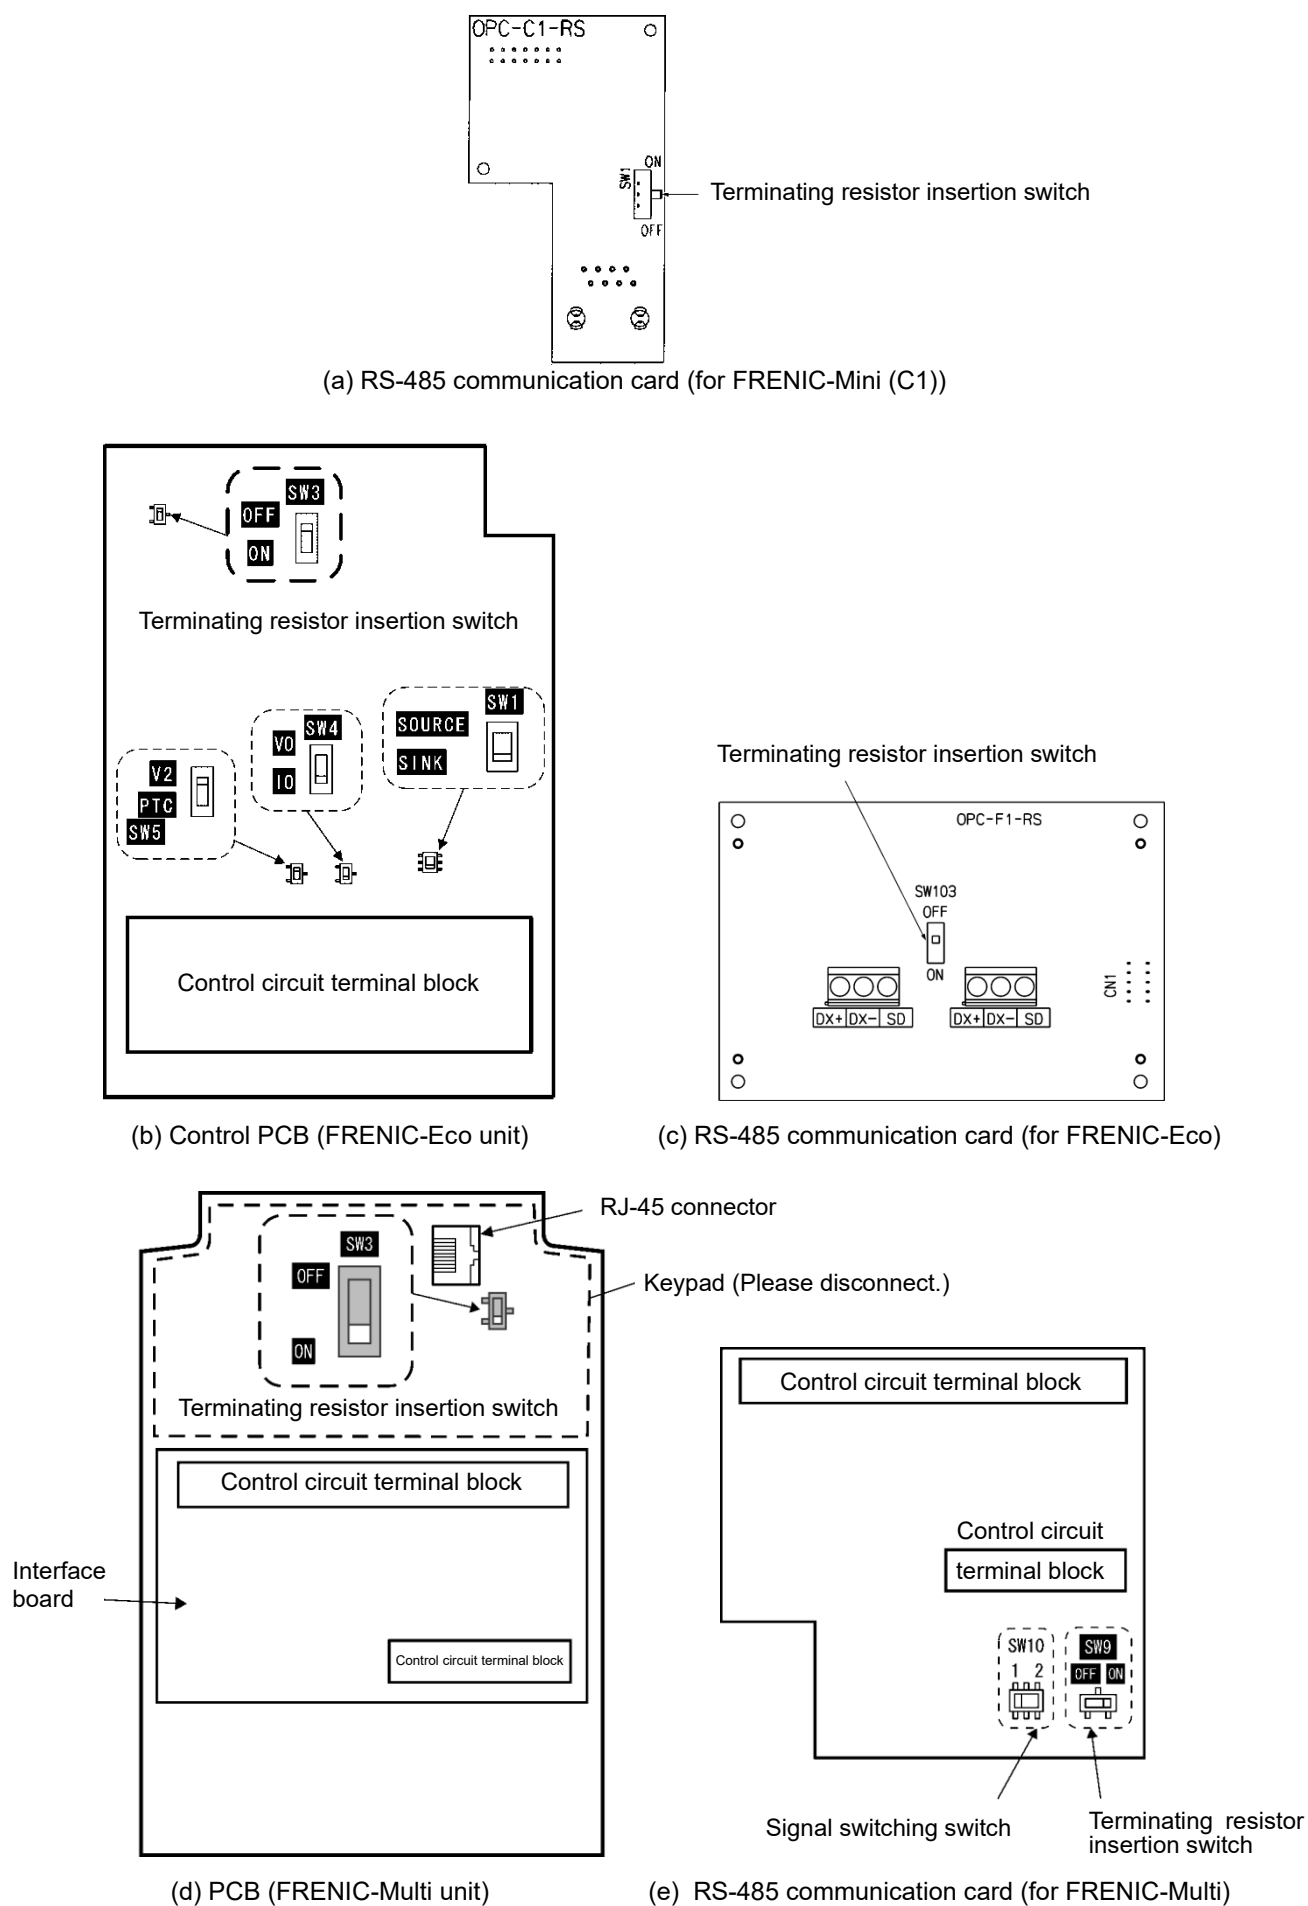

Fig. 8.1 Terminating resistor insertion switch arrangement (Mini (C1), Eco, Multi)
The DX+ and DX- signal pin assignments on RS-485 communication card function expansion RJ-45 connector for FRENIC-Multi/Ace (E2, E3) can be configured the same as that for the FVR-E11S using signal switching switch SW10. Refer to " 8.5 Function Expansion RJ-45 Connector (Modular jack) Specifications" for details, and refer to "8.6 Specifications for Dedicated RJ-45 Connector (Modular jack) for RS-485 Communication Fig. 8.1 (1) (e)" for the signal switching switch SW10 configuration.
To change the switch settings shown in Fig. 8.1 to 8.4, use a tool with fine tip (tweezers, etc.), and be careful not to touch any other electronic components. The switch will be at open state when the slider is in the middle, so be sure to push it fully in to the end.